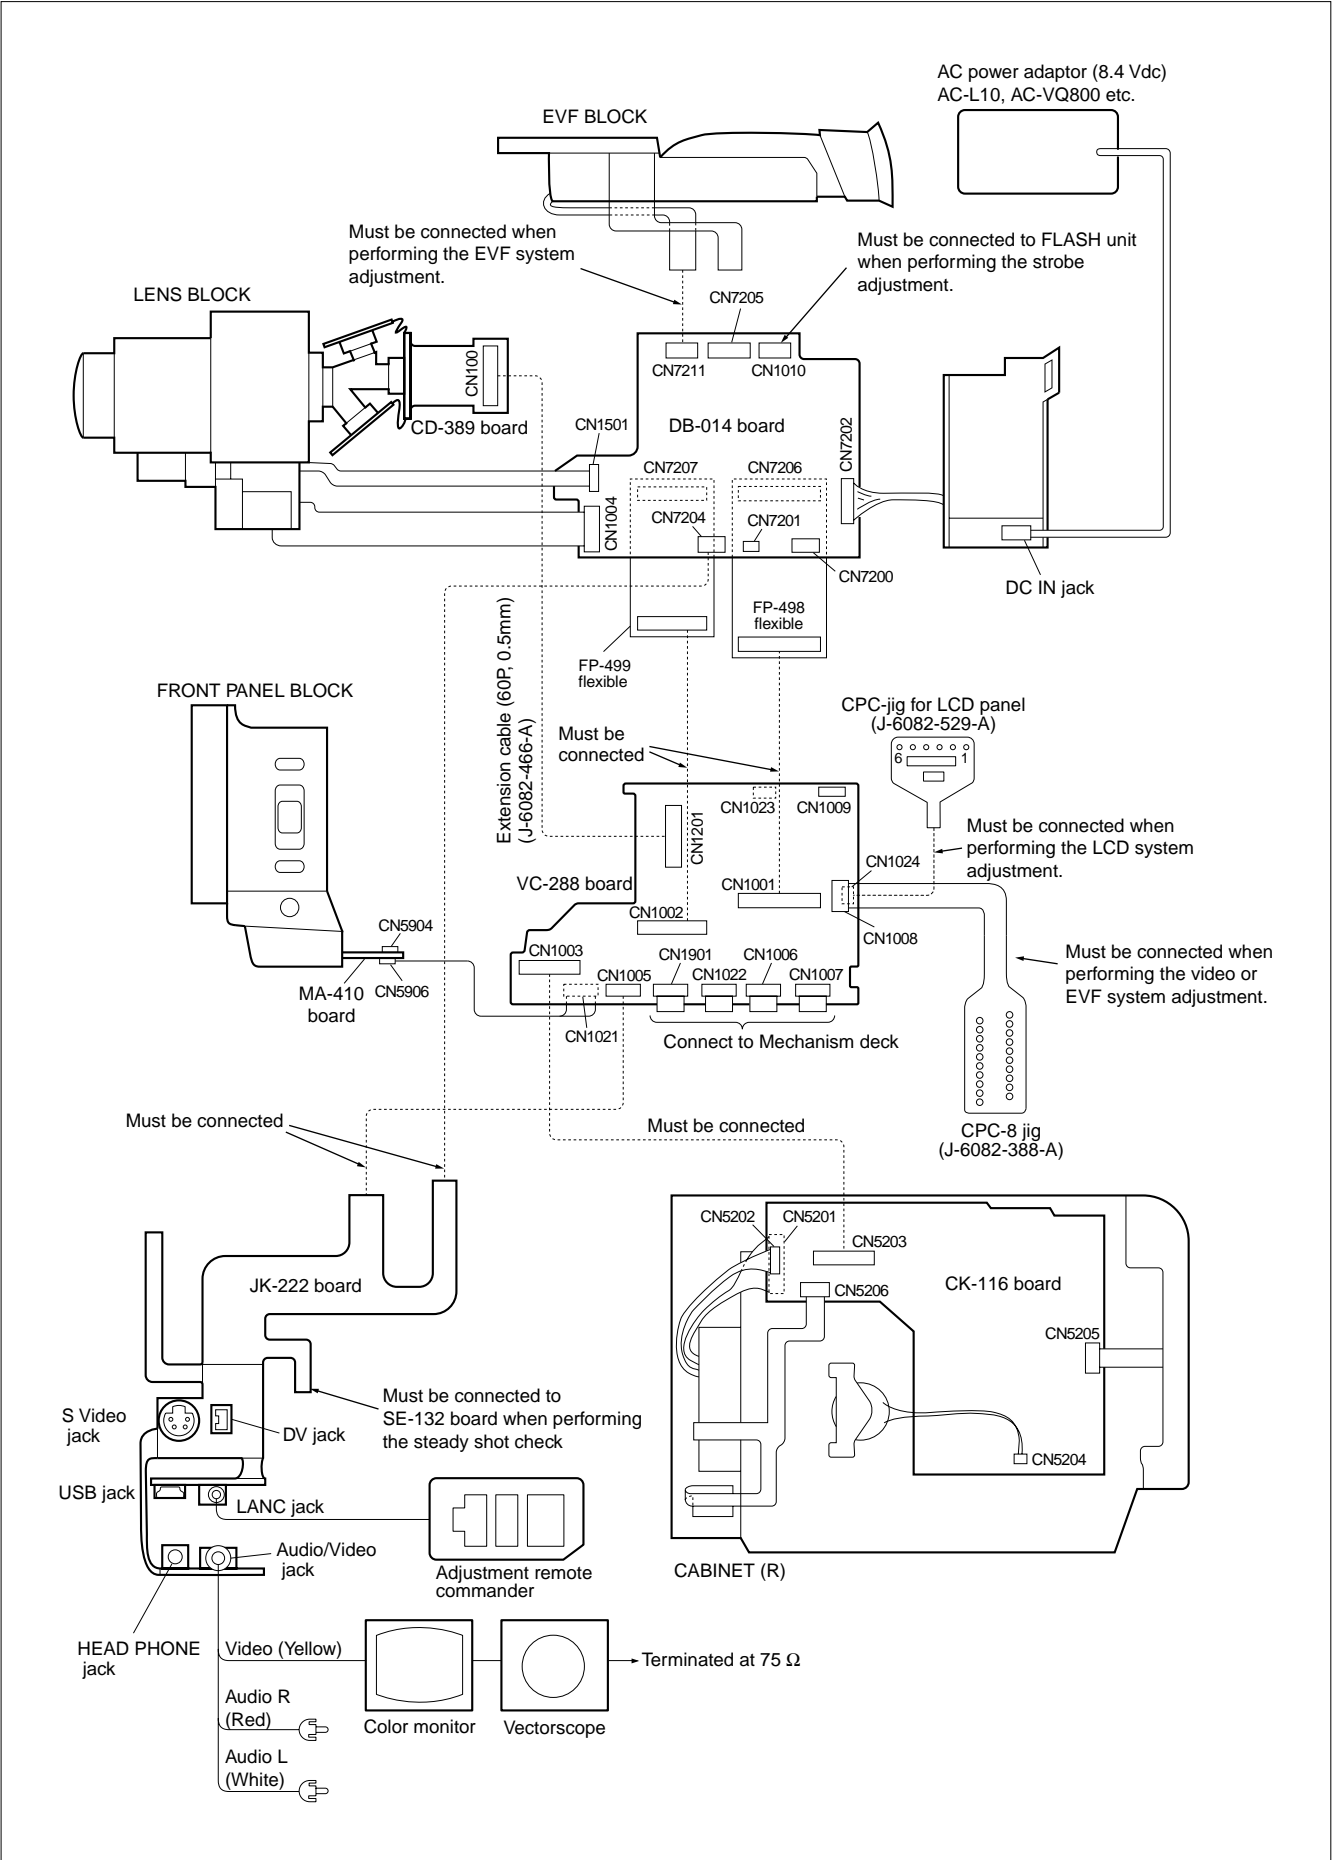

Fig. 6-1-3
1) Connect the equipment for adjustments according to Fig. 6-1-3.